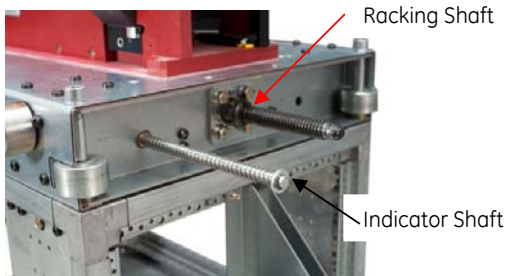
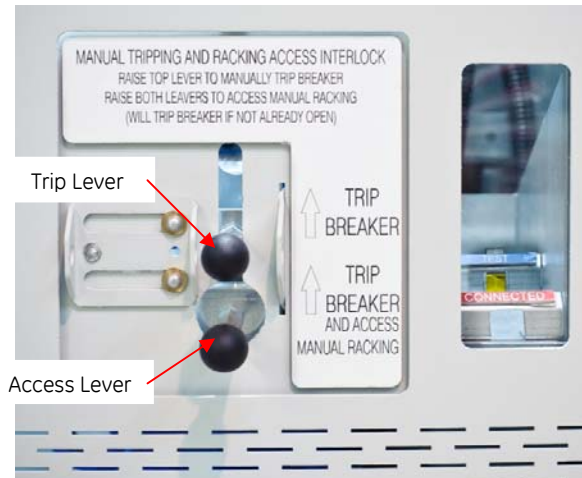
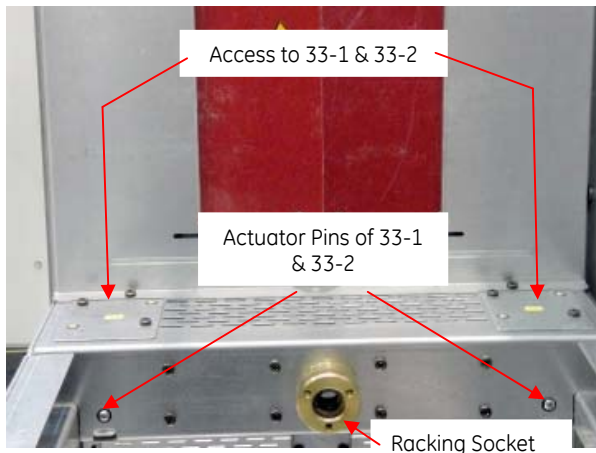

Fig. 71-1 Racking system
Fig. 71-4 Front door Access Interlock
Fig. 71-8 Limit switches 33-1 and 33-2.
The racking mechanism is designed for moving the trolley between two (2) positions, TEST and CONNECTED. Clockwise rotation of the racking shaft, Fig. 71-1, results in Trolley movement toward the CONNECTED position. Counterclockwise rotation of the racking mechanism results in trolley movement from the CONNECTED to the TEST position.
Front door Access Interlock, see Fig. 71-4, ensures tripping of the breaker before the Crank Handle can be inserted for racking. Lifting up of the Trip Lever causes breaker to trip open, and additionally enable access to manual racking slot.
3. Lift up the Access Lever (Fig. 71-4) and push the trolley in further until racking shaft (Fig. 71-1) couples with socket (Fig. 71-8).
5. Remove the Crank Handle. Push down the Trip Lever, (Fig. 71-4), to make sure that both levers of the Access Console are in their maximum lower positions.
1. Trolley CONNECTED. Open the breaker either using OPEN command or pulling up the Trip Lever (Fig. 71-4).
2. Lift up the Access Lever (Fig. 71-4) and insert Crank Handle. Rotate the crank counterclockwise until trolley stops. Breaker is now at TEST position.
4. Remove the crank. Lift up the Access Lever (Fig. 71-4) and pull the trolley out from the module.
5. Remove Crank Handle. Push the Trip Lever down, (Fig. 71-4), making sure that both levers of the Access Console are in their maximum lower positions.